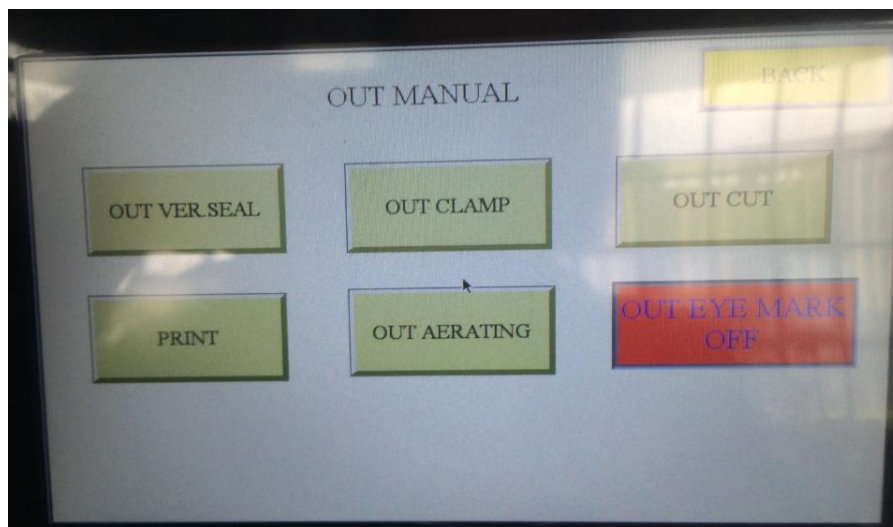

Fig. 4-7
**Outer Manual:** displays the outer film sealing by manual. click this button to go into the interface 4-7. (see Fig. 4-7)